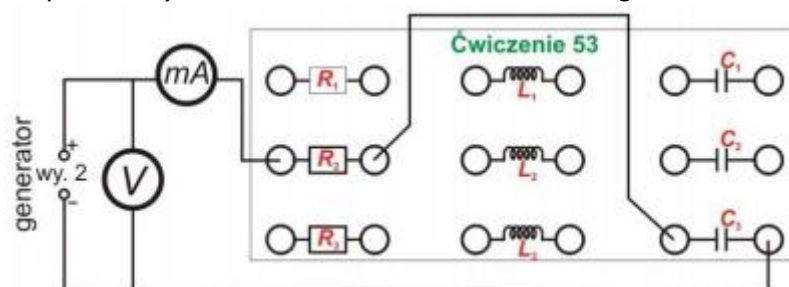

Fig. 2. RC circuit used to determine capacitance C .
Connect the electric circuit according to Fig. 2. This is an "RC" circuit, meaning that there are only R and C components connected in series to the AC source (generator). Turn on the generator with the button ⑰.